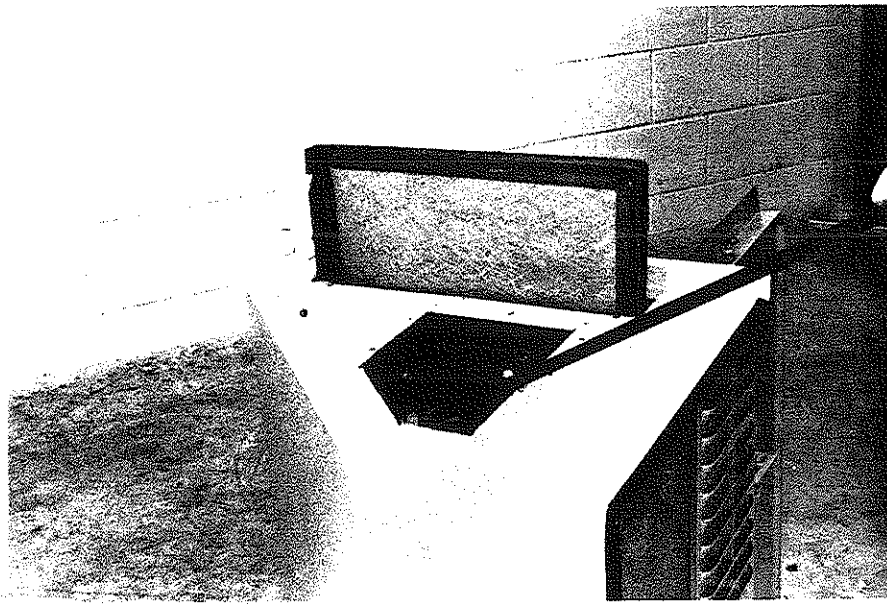
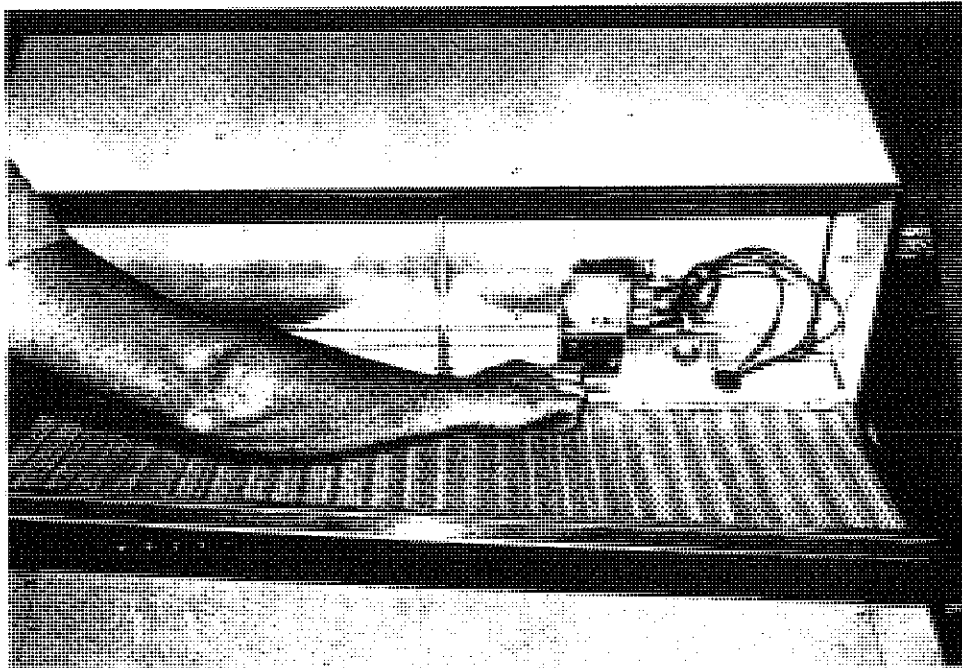

FIGURE 9
FIGURE 10
- 13.) REMOVE FILTER ACCESS AND CONTROL ACCESS PANELS ON SIDE OF INTAKE HOOD OF ECONOMIZER ASSEMBLY. (SEE FIGURE 9) REMOVE MOISTURE ELIMINATOR UNDER INTAKE HOOD OF ECONOMIZER. (SEE FIGURE 10)
- a.) LOCATE THE MINIMUM POSITION POTENTIOMETER ON THE MOTOR (SEE ENCLOSED MANUFACTURERS LITERATURE) LOCATED ABOVE WIRING TERMINALS. (FIGURE 9)
- c.) CYCLE THE MINIMUM POSITION POTENTIOMETER (FACTORY SET FOR 0% FRESH AIR) 0 TO FULL OPEN. (SEE FIGURE 9) THROUGHOUT CHECKOUT PROCEDURE OBSERVE OPERATION OF DAMPER TO INSURE THERE IS FREE, UNOBSTRUCTED OPERATION THROUGH THE ENTIRE RANGE OF DAMPER TRAVEL. THEN ADJUST THE DAMPER MINIMUM OPEN POSITION TO MEET LOCAL CODES OR APPLICATION REQUIREMENTS. (SEE EXAMPLE BELOW)
- LOCATE THE ENTHALPY CONTROL ADJUSTMENT KNOB ON ENTHALPY CONTROL IN ECONOMIZER INTAKE HOOD (FIGURE 10).
- f.) ADJUST THE ENTHALPY CONTROL TO POSITION A,B,C,D TO ACHIEVE THE MAXIMUM COMBINATION OF TEMPERATURE AND HUMIDITY ACCEPTABLE FOR THE INSTALLATION AS PER THE CHART IN MANUFACTURERS ENCLOSED INSTRUCTIONS. (THE SUGGESTED SETTING IS BETWEEN A & B 70°DB @ 55 PERCENT RH. IT IS FURTHER RECOMMENDED TO ALWAYS SET THE CONTROL AT C OR ABOVE. (FIGURE 10)
- g.) SWITCH THE THERMOSTAT FAN CONTROL TO AUTOMATIC AND POSITION THE HEAT COOL SWITCH TO COOL. ADJUST THE THERMOSTAT TEMPERATURE TO ENGAGE THE FIRST STAGE OF COOLING ONLY (Y). THIS WILL CAUSE THE DAMPERS TO MODULATE TO ACHIEVE THE PREVIOUSLY SET MIXED AIR TEMPERATURE PROVIDED OUTSIDE AIR ENTHALPY IS SUFFICIENTLY LOW. IF ENTHALPY IS TOO HIGH FOR ECONOMIZING, LOW ENTHALPY CAN BE SIMULATED BY TEMPORARILY REMOVING AND JUMPING LEADS ON THERMINAL 2 AND 3 OF ENTHALPY CONTROL TOGETHER. THIS WILL ALSO CAUSE THE ECONOMIZER DAMPER TO MODULATE AWAY FROM MINIMUM POSITION (BE SURE TO PROPERLY RECONNECT LEADS AT END OF CHECKOUT PROCEDURE.)